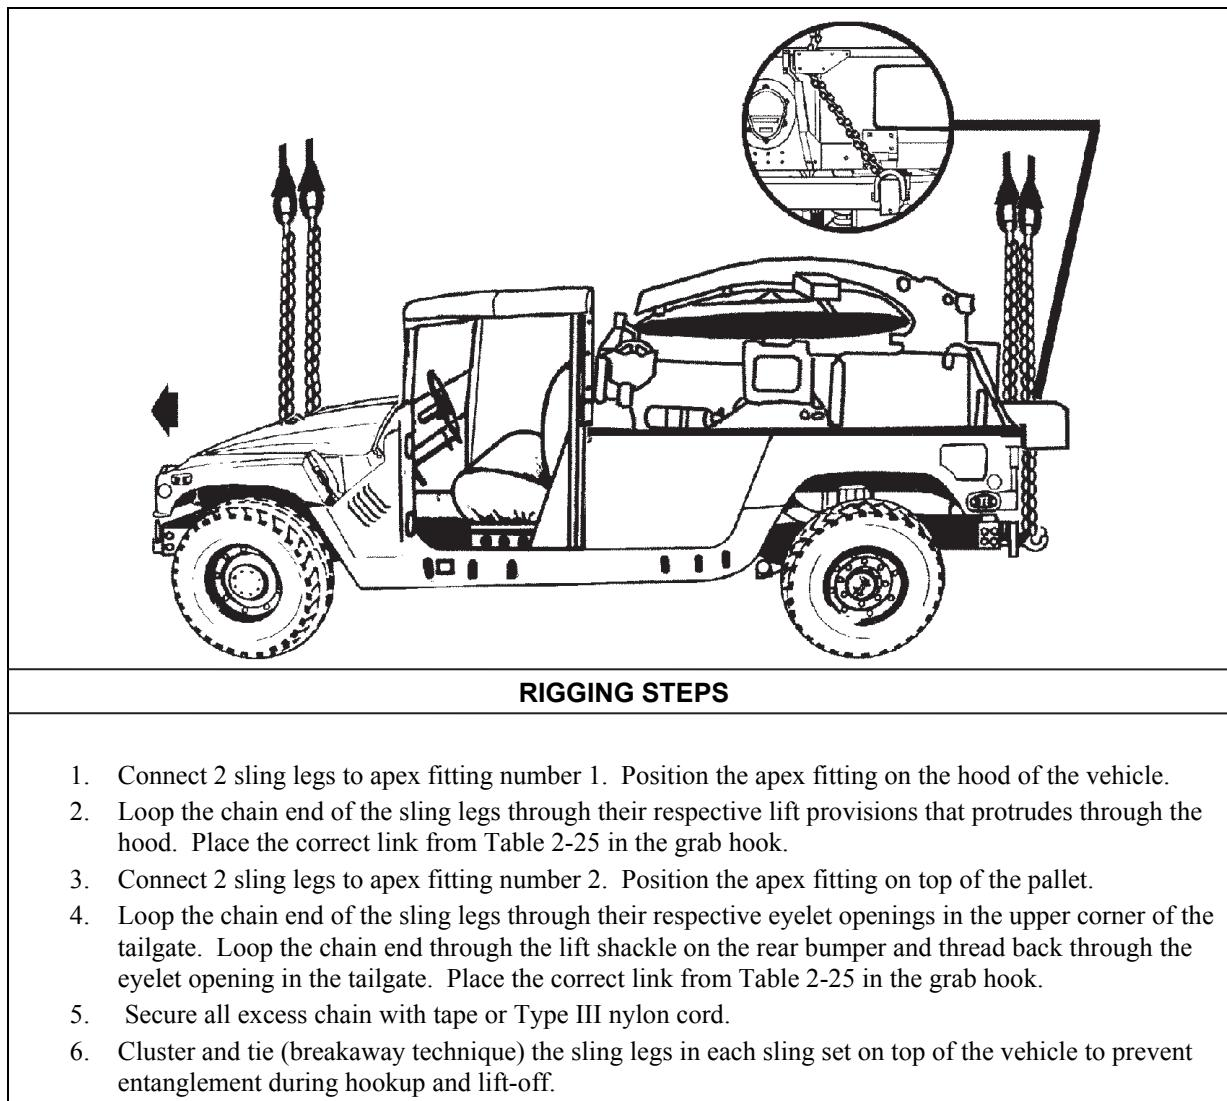

Figure 2-24. M1097A2 with the Secure Mobile Anti-Jam Reliable Tactical Terminal
- **Rigging.** Rig the load according to the steps in Figure 2-24.